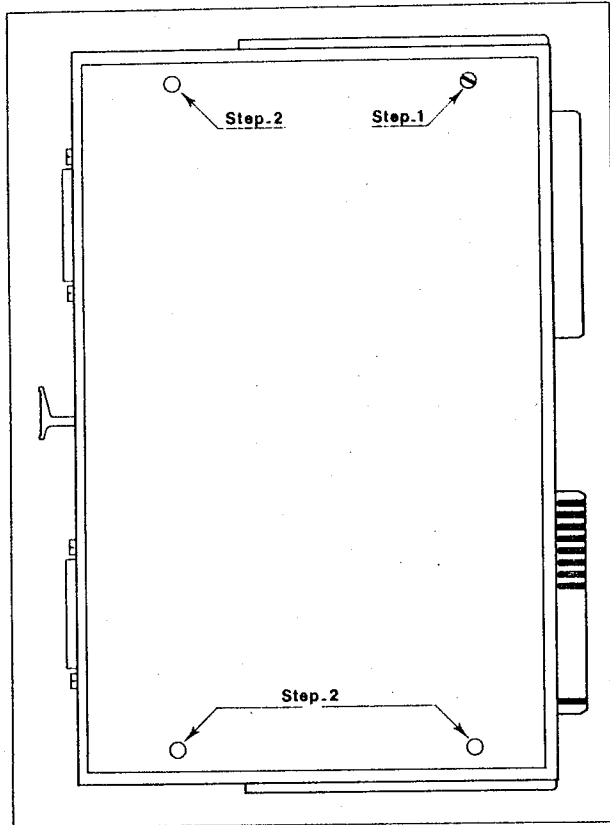

Figure 3 - Cover and Snop in Plug Locations
- Step 1** — Remove the screw indicated with an arrow (see figure 3).